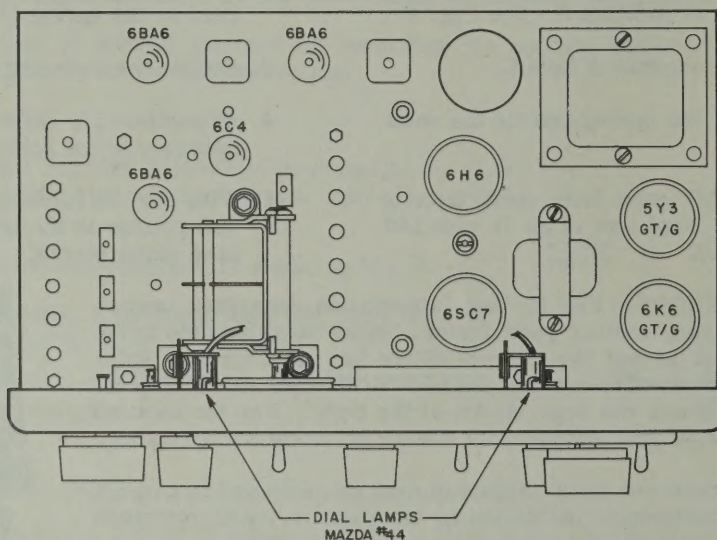

Fig. 8. Top View of Chassis Showing Location of Tubes and Dial Lamps
DIAL LAMP REPLACEMENT - Refer to Fig. 8 for the location of the dial lamps used in the receiver. To gain access to the dial lamps, open the hinged top cover of the cabinet. Unclip the dial lamp socket from the mounting bracket. The socket and lamp can then be brought out into the open. Make replacement with a 6-8 volt, 250 ma Mazda #44 pilot lamp or equivalent.
TUBE REPLACEMENT - The tube types and their relative location in the receiver are shown in Fig. 8. To gain access to all tubes, open the hinged top cover of the cabinet. When installing a replacement octal tube: (1) Insert the center guide pin of the tube into the center hole of the tube socket (2) Rotate the tube until the key on the guide pin drops into the notch in the socket hole and (3) Push down on the tube until the base of the tube rests firmly on the socket. When installing a replacement miniature tube, line up the seven pins on the tube with the socket holes before pushing the tube into place. Handle all tubes with care as they are fragile and will not withstand mechanical abuse.